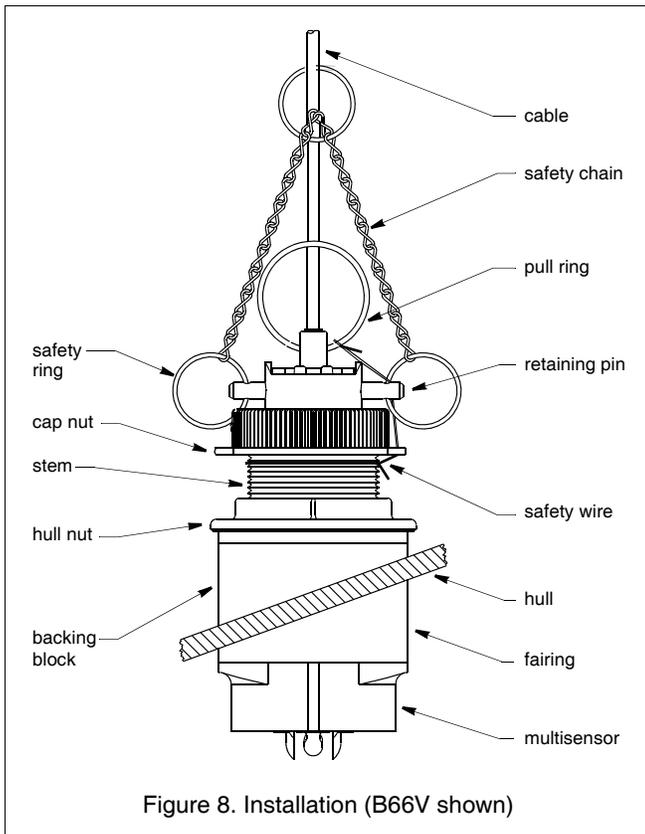
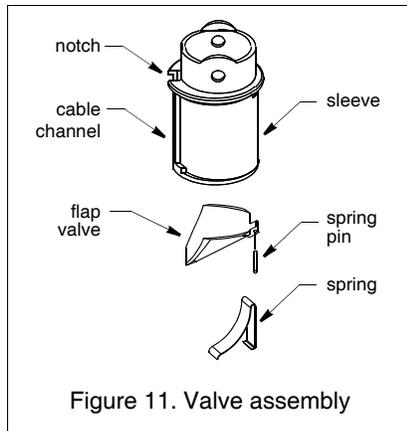

Figure 8. Installation (B66V shown)
Figure 11. Valve assembly
3. From inside the hull, slide the backing block onto the multisensor cable and stem seating it firmly against the hull. Screw the hull nut in place and tighten it with slip-joint pliers (see Figure 8).
8. Slide the center ring of the safety chain onto the cable. Slide the retaining pin in place and reattach the safety ring (see Figure 8).
- Remove the safety wire from the pull ring and cap nut. Remove one safety ring and pull out the retaining pin (see Figure 8). Do not remove the cap nut.
- With the arrow pointing forward, insert the blanking plug. Secure it with the retaining pin, safety rings, and safety wire (see Figure 8).
- Remove the safety wire and unscrew the cap nut. With the blanking plug ready in one hand, remove the paddlewheel insert and valve assembly as one unit by grasping the pull ring and pulling upward (see Figure 8). Rapidly replace the valve assembly with the blanking plug to minimize the flow of water into the boat. Temporarily secure it with the safety wire.
- Clean, repair, or replace the valve assembly so that the flap valve moves freely and seats against the sleeve (see Figure 11).
- Slide the paddlewheel insert into the valve assembly. Seat it in place with a twisting motion until the keys fit into the notches. Secure the paddlewheel insert with the retaining pin and safety rings (see Figure 8).
- Remove the safety wire from the multisensor. With the valve assembly ready in one hand, remove the blanking plug. Slide the assembly into the multisensor housing with the arrow on the top pointing forward (see Figure 8). *Be sure* the cable fits into the cable channel and the key in the housing fits into the notch in the sleeve (see Figure 11). (A pushing twisting motion will locate the key.) Screw the cap nut in place and **hand-tighten** it only. *Do not* over tighten.
- Reattach the safety wire (see Figure 8).